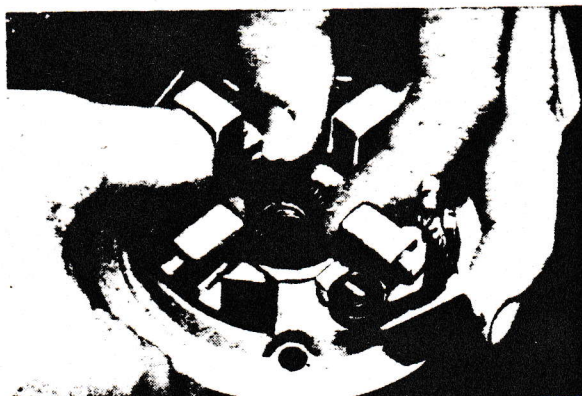

Fig. 58. Fitting the rotor brake
1. Fit the rotor brake in the rear end shield, see Fig. 58, and the lead between the positive brushes.